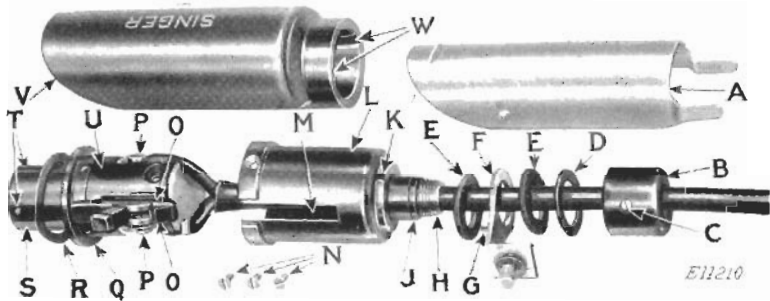

FIG. 21. SHOWING SCREW CONNECTIONS OF SINGERLIGHT
the reflector (A, Fig. 21) from the Singerlight shade (V). Turn the shade until the pins (T) on the Singerlight lamp socket (S) reach the slots (W) on the inside of Singerlight shade base, and draw the shade from the lamp socket. Loosen screw (C) in Singerlight nipple cap (B), and unscrew the nipple cap. Draw the nipple cap (B) along the leads and away from the Singerlight shell (L) as shown in Fig. 21. Remove the three screws (N) which fasten the shell (L) to the lamp socket body (U), and draw the shell (L), fibre washer (D), Singerlight bracket (F) and the two felt washers (E) along the leads and away from the lamp socket body (U) as shown in Fig. 21.
Note that the spreader, shown in Fig. 21 at the base of Singerlight body (U), is provided with four notches—two round bottomed notches and two V-notches. The two round bottomed notches are for the Singerlight leads, while the two V-notches are for the two positioning ribs on the inside of shell (L). One side of this spreader—the side which is placed against the lamp socket body (U) as shown in Fig. 21—is marked by a line which connects the two leads notches. When replacing this spreader, be sure to place the leads in the round bottomed notches and have the marked side of the spreader against the lamp socket body (U) as shown in Fig. 21.
When reassembling, push the shell (L) tight against the flange (Q) of the lamp socket body (U) and with the slot (M) engaged by the grooves (O) in the cover plate. Insert and tighten the three screws (N). Put the felt washers, bracket and fibre washer on the screw nipple bushing (J) and against the base of the shell (L) in the following order and as indicated in Fig. 21:
Before replacing the Singerlight shade (V, Fig. 21) and reflector (A), be sure to have the spring washer (R) on the lamp socket (S), as shown in Fig. 21.